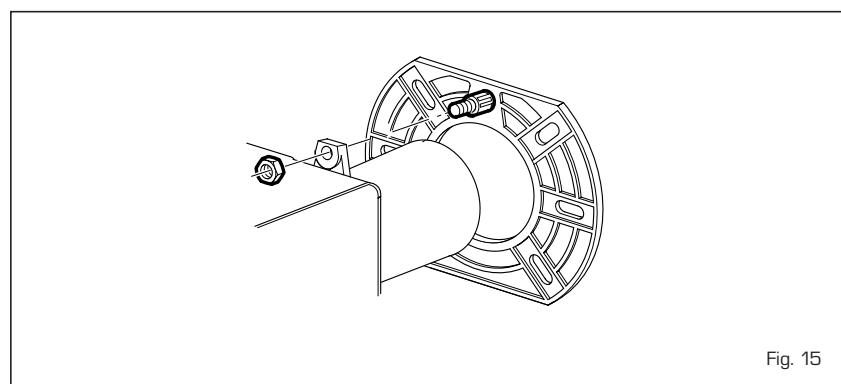

Fig. 15
- loosen the union [2 fig. 15/a] and remove the four screws which fasten the collar [3 fig. 15/a] to the burner.
- To dismantle the eater or thermostat, refer to figure 15/b.